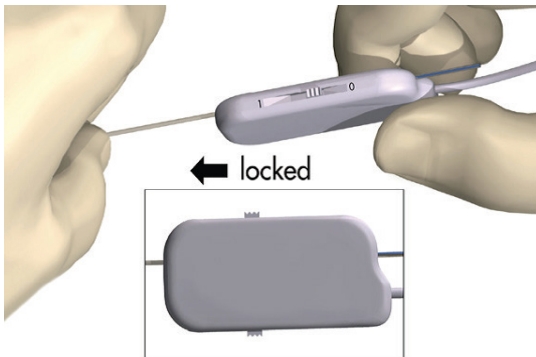

Figure 7: Securing the DBS Lead into the 1x8 OR Cable Connector
7. Push the end of the DBS Lead into the port until it stops. Hold the DBS Lead in place while sliding the locking lever to the locked (1) position (Figure 7).